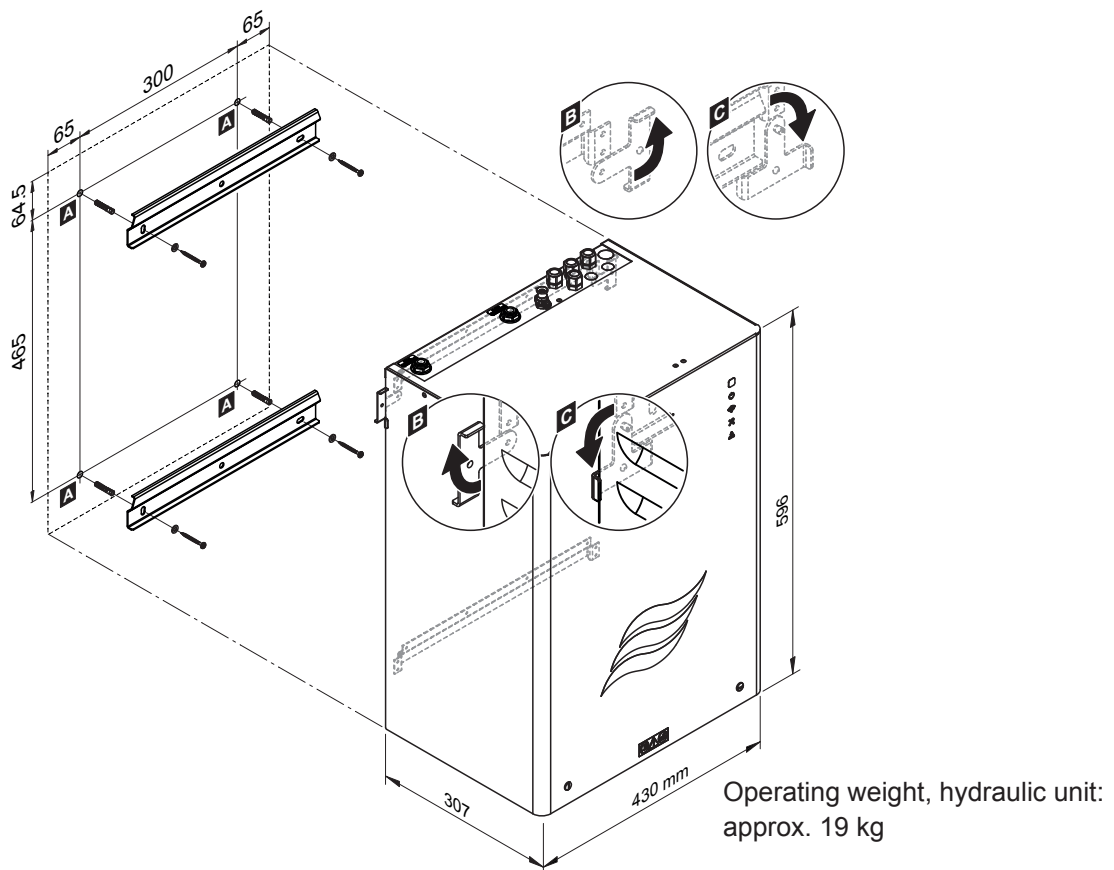

Fig. 15: Installation of the hydraulic unit (dimensions in mm)
3. Turn the locking tabs outwards on both sides of the hydraulic unit (open position, see Detail "B" in Fig. 15).
4. Hook the hydraulic unit into the wall brackets. Then turn the two locking tabs on the rear panel of the hydraulic unit inwards (closed position, see Detail "C" in Fig. 15) to secure the hydraulic unit to the top wall bracket.